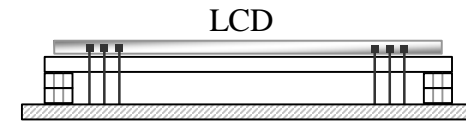

Figure 5-11
- The LCD must be seated flat against the diffuser as shown in the edge view (Figure 5-11). If the LCD does not appear to be seated correctly, it may be because the backlight LEDs or spacers are misaligned. When the assembly is installed correctly, the LCD's pins will all protrude the same distance from the bottom of the board. (Some units may be supplied with shorter pins that do not protrude at all.)